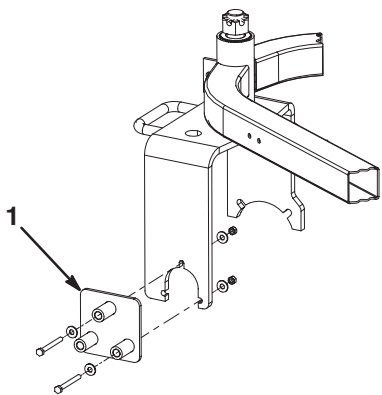

Figure 3
1. Mount the drill guide to the right side of the castor fork with (2) 5/16 x 3 in. bolts, (4) 3/8 x 7/8 washers and nuts. Position the components as shown in figure 3.